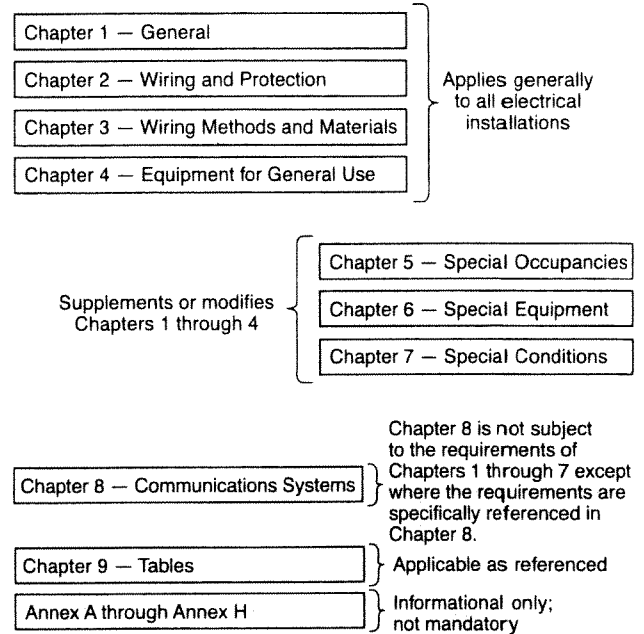

Figure 90.3 Code Arrangement.
This *Code* is divided into the introduction and nine chapters, as shown in Figure 90.3. Chapters 1, 2, 3, and 4 apply generally; Chapters 5, 6, and 7 apply to special occupancies, special equipment, or other special conditions. These latter chapters supplement or modify the general rules. Chapters 1 through 4 apply except as amended by Chapters 5, 6, and 7 for the particular conditions.
The reference to “the introduction” in 90.3 is intended to include Article 90 in the application of the *Code*. Chapters 1 through 4 apply generally, except as amended or specifically referenced in Chapters 5, 6, and 7 (Articles 500 through 770). For example, 300.22 (Chapter 3) is modified by 725.3(C) and 760.3(B) and is specifically referenced in 800.133(C) and 830.3(B). Figure 90.3 is a graphic explanation of the *NEC* arrangement.